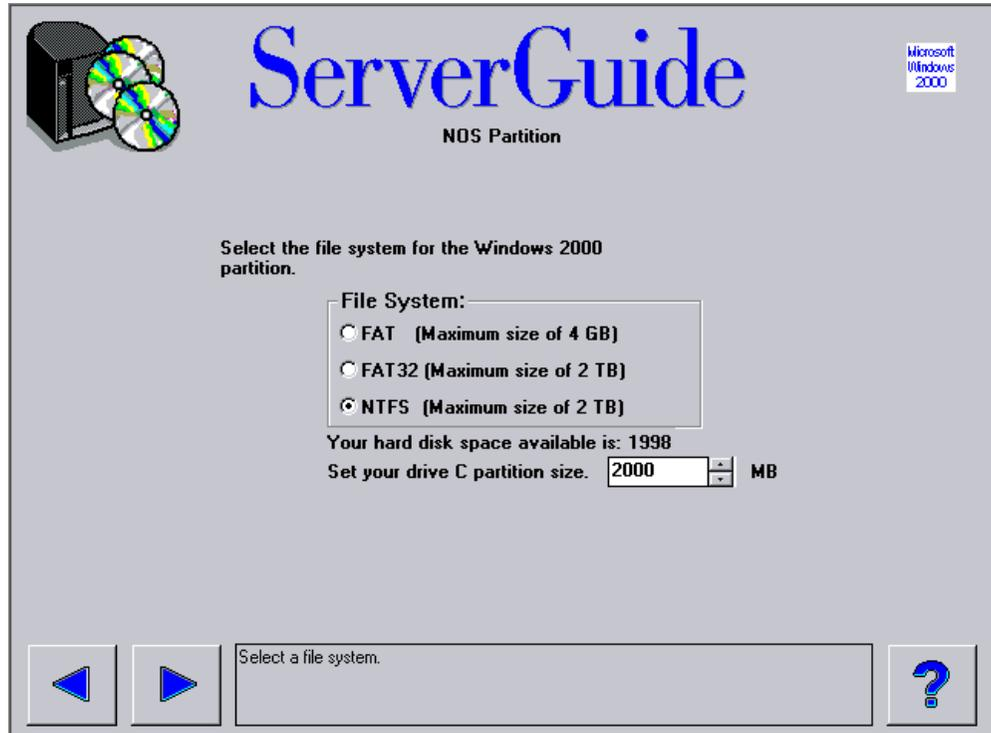

Figure 39. NOS partition file system and size selection
18. The Microsoft license agreement is shown. Select **Accept the Microsoft license agreement** and click . Figure 39 appears.